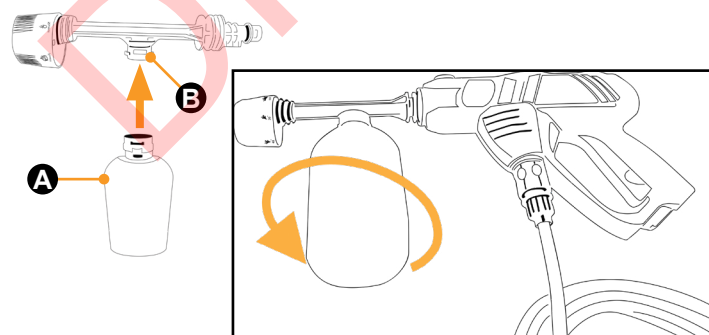

Fig.10
4. When viewing power cleaner from the orientation shown in figure 10, twist the additive bottle to the right to disengage the bottle from the nozzle.